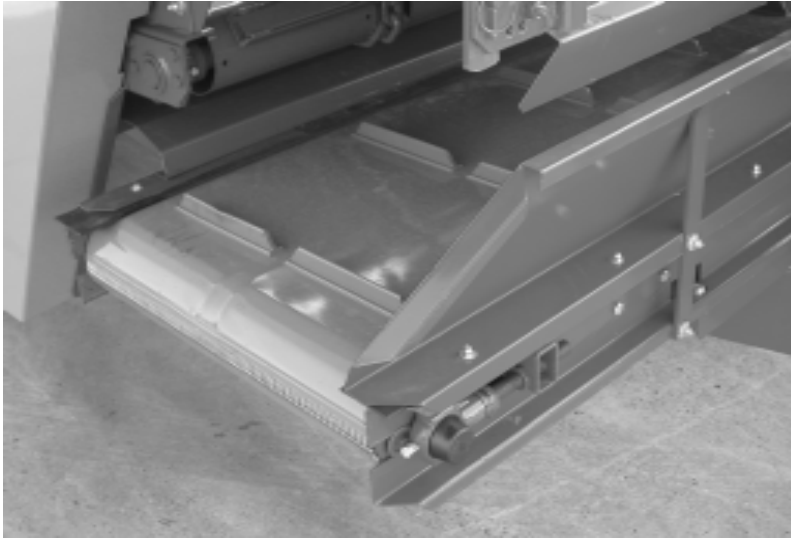

Fig. 4
The cross conveyor belt is tightened by means of the clamp bolts 1 (fig. 4). Make sure that the conveyor belt runs in central position and does not bump on the left- or right-hand side.
The cross conveyor belt should be purged of fodder remainders from time to time. For this purpose, loosen the clamp bolts (1) on the left and right-hand side (see fig. 4) and turn the conveyor belt until the joining element (2) (belt connector) is in a position that allows to dismount the connecting wire and to remove the conveyor belt. Now the deflection and supporting rollers and the cross belt frame can be purged of fodder remainders.